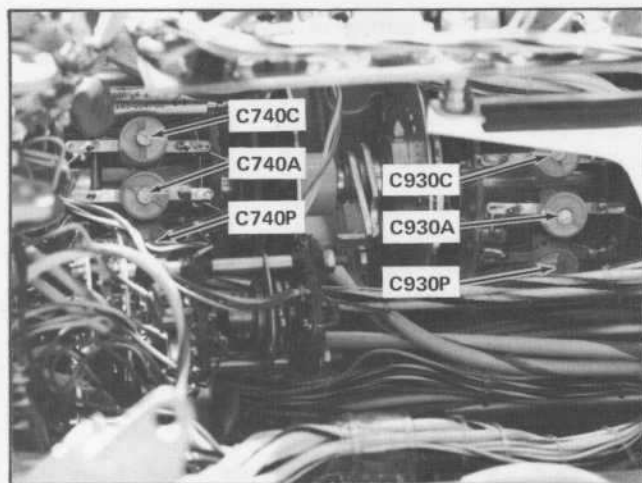

Fig. 5-18. Location of A and B Sweep timing adjustments A and B TIME/DIV switch (behind swing-out side panel).
e. ADJUST—C740C (see Fig. 5-18) for one marker each division.
i. ADJUST—C930C (see Fig. 5-18) for one marker each division.
d. ADJUST—C930A (see fig. 5-18) for one marker each division.
g. ADJUST—C740A (see Fig. 5-18) for one marker each division.
d. ADJUST—C740P (see Fig. 5-18) for one cycle/division.
s. ADJUST—C930P (see Fig. 5-18) for 1 cycle/division.